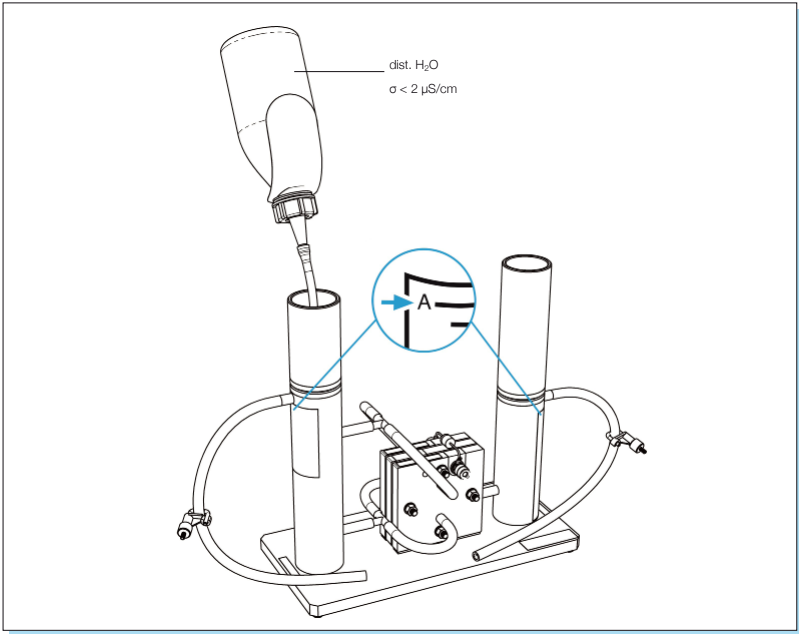

Fig. 4: Filling
- Fill both gas storage tanks with distilled water to the -A- mark ($\sigma < 2 \mu\text{S/cm}$) as shown in figure 4.